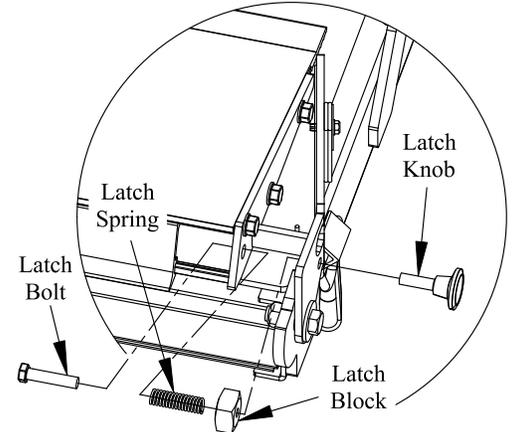

Figure 2: Remove/install latch assembly.
16. **Insert** the Latch Knob through the hole in the Retention Ramp End threading it into the Latch Block (Figure 2).
18. **Position** the Latch Spring as shown in Figure 2.